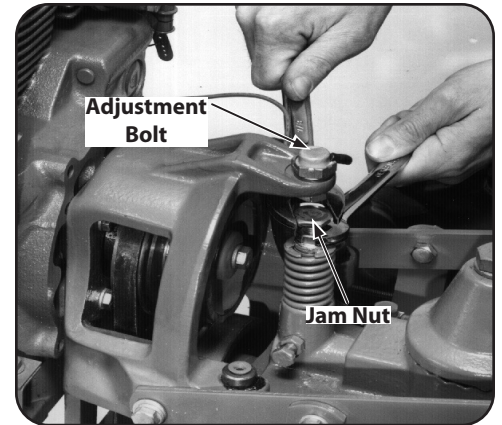

Figure 5-23
5. Place a 7/8" wrench on the head of the reverse adjustment bolt and a 9/16" wrench on the jam nut below it. See Figure 5-23. Hold the bolt steady while loosening the jam nut three or four turns.
7. Check that the reverse disc is at least 3/16" away from the transmission drive pulley. Then hold the reverse adjustment bolt steady with one wrench while tightening the jam nut with a second wrench. See Figure 5-23.